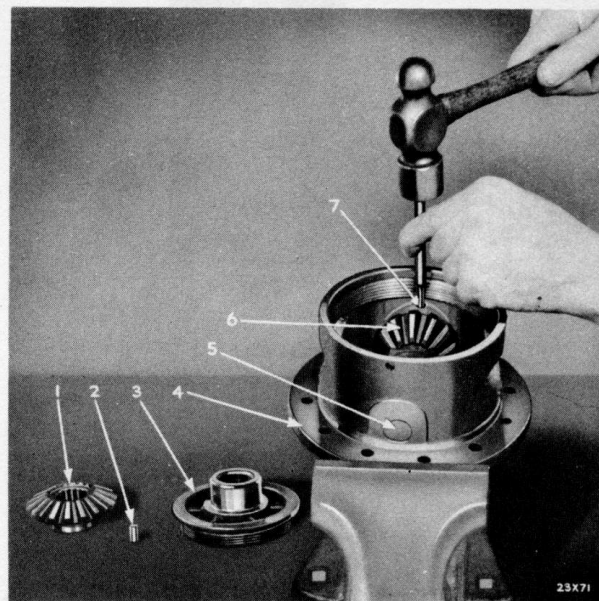

Fig. 10—Removing Differential Shaft Lock Pins
- (4) Remove differential pinion shaft lock pins by driving them out of case with a hammer and punch (Fig. 10).
- (5) Push the differential pinion shafts out of differential case. The gears, thrust washers and axle shaft thrust block will then be loose and can be lifted out of case.